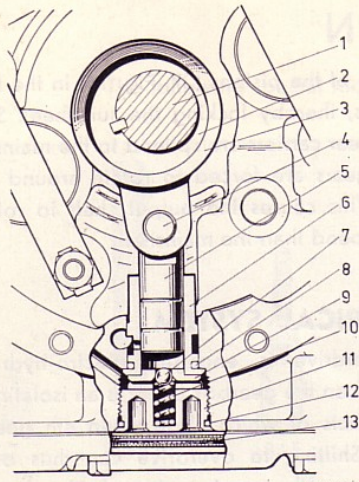
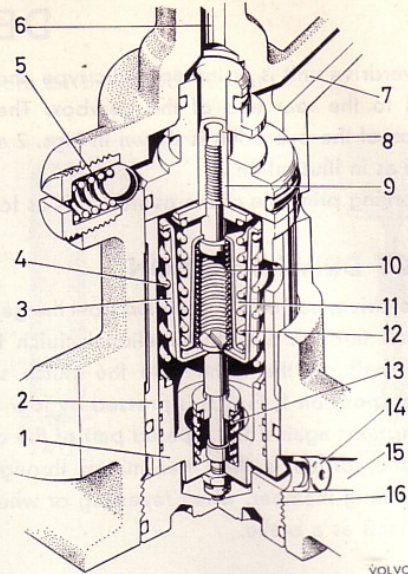

Fig. 5. Oil pump
Fig. 6. Relief valve
The hydraulic system consists of the following main parts: Sump filter, oil pump (Fig. 5), pressure filter, hydraulic cylinders and plungers, relief valve (Fig. 6) and an operating valve, which is actuated by the solenoid.
The small piston (9, Fig. 6) is the actual relief valve.
In direct drive (see Fig. 7), oil is drawn up through the sump filter by the oil pump and is forced through the pressure filter. From there it flows on through the hydraulic cylinders to the relief and operating valves. The operating valve is closed (Fig. 8) and the large piston of the relief valve is in its lower position (Fig. 9). The residual spring (10, Fig. 6) is off-loaded, so that only a low pressure is required to press down the small piston of the relief valve. Oil then flows past this piston out into the drilling (7) for the main shaft.
On engaging overdrive, the solenoid is energized and its valve opens to the position shown in Fig. 10. Oil is directed to the bottom of the relief valve and causes the dashpot piston to rise and compress the springs (Fig. 11). The springs are prevented from being compressed further than their working length by means of the relief valve and dashpot spring cups. The only spring which can operate in this position is the relief valve spring 12, Fig. 6, which thus determines the pressure during overdrive engagement. Spring 12 is considerably stronger than spring 10, so that a considerably higher pressure is now obtained. This causes the dashpot pistons to be displaced and pull the clutch sliding member forwards to engage with the brake ring.
Returning to direct drive de-energizes the solenoid and its valve is closed by a spring, cutting off the oil supply between passages 12 and 2, Fig. 7. The connection between passage 2 and the sump is opened instead. Oil can then flow out into the sump under the large piston unit of the relief valve so that pressure in the system progressively drops and direct drive is engaged. By means of the restrictor plug (14, Fig. 6) and the spring (13), the engaging time is so balanced that smooth engagement is obtained without slipping.
Oil, which passes the small piston unit of the relief valve, is directed through the drilling (7, Fig. 6) and a drilling in the mainshaft to the free wheel and shaft bush. From here it is directed by an oil thrower into a catcher disc on the planet carrier and then led via the planet gear back to the gearbox housing, see Fig. 15. The oil pump has such a large capacity that sufficient lubricating oil always flows past the relief valve. A special relief valve (5, Fig. 6) is installed in drilling (7) in order to maintain even lubricating oil pressure.